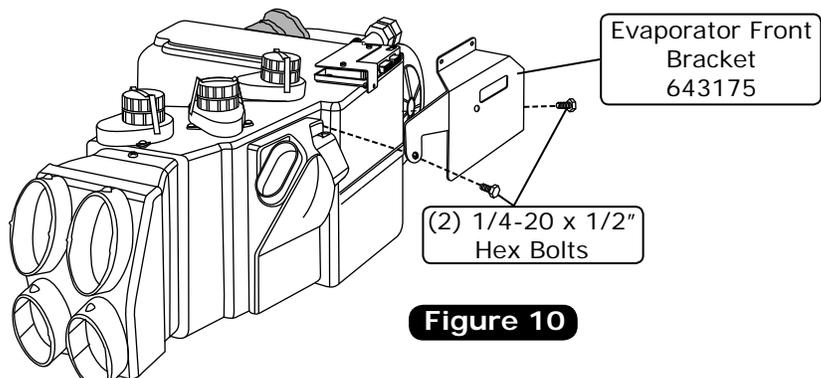

Figure 10
4. Install the evaporator front bracket onto the evaporator using (2) 1/4-20 x 1/2" bolts, and tighten (See Figure 10, below).